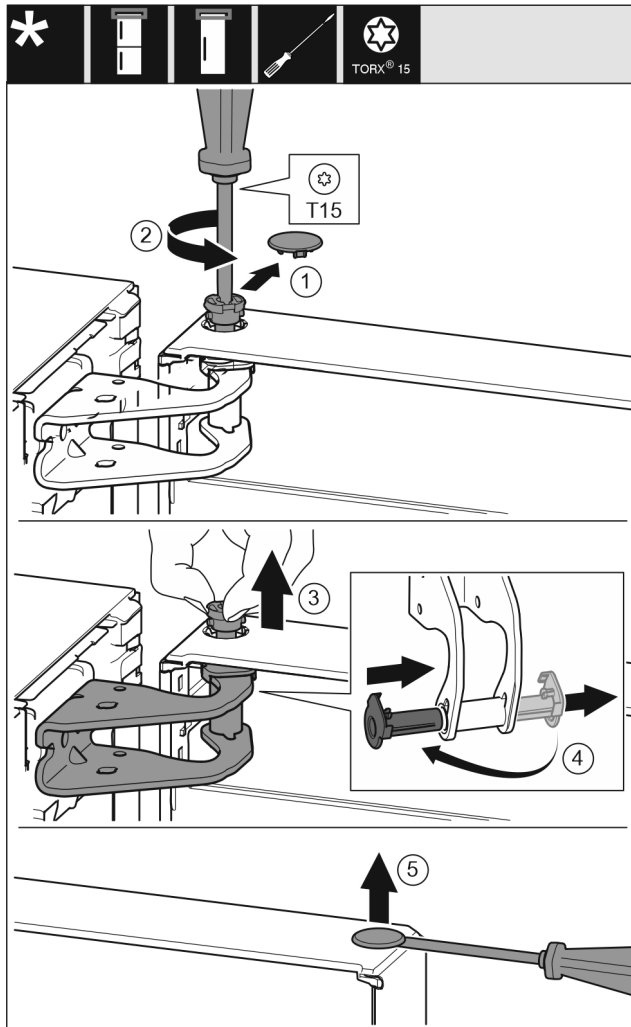

Fig. 7
- Carefully remove the protective cover. Fig. 7 (1)
- Loosen the bolts slightly with a T15 screwdriver. Fig. 7 (2)
- Hold the door and remove the bolts with your fingers. Fig. 7 (3)
- Pull the bearing bush out of the guide. Insert from the other side and latch into place. Fig. 7 (4)
- Carefully lift the plugs out of the door bearing bush with a slotted screwdriver and remove them. Fig. 7 (5)